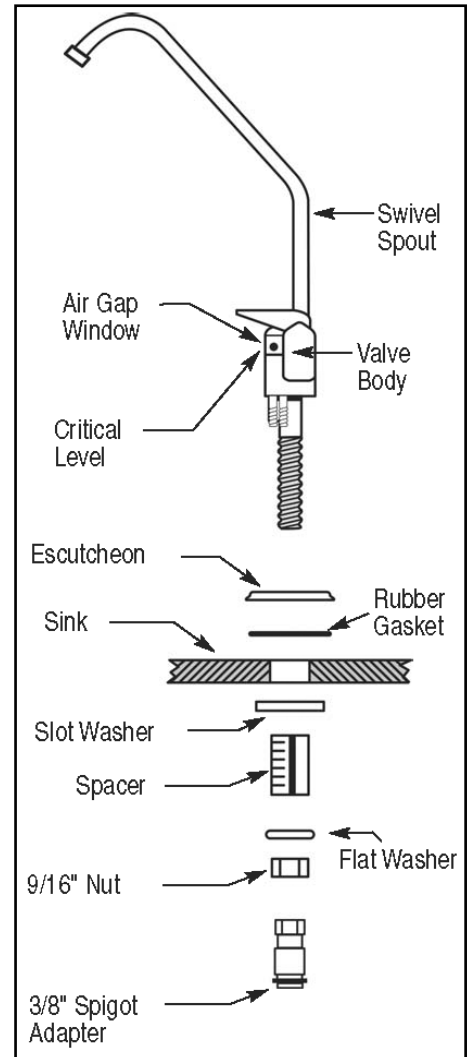

Figure 6: Air Gap Spigot Assembly
- A. Using the diagram in Figure 6, assemble the Air Gap Spigot with all the components except the slot washer. Begin with the escutcheon, followed by the rubber gasket, spacer, flat washer, 9/16" nut, and 3/8" spigot adapter.